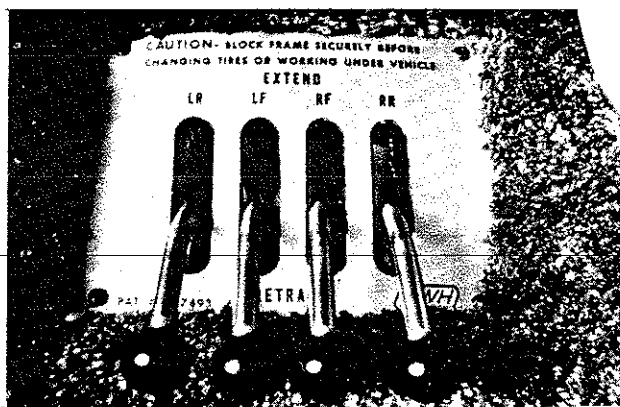

Figure 2-8. Leveling Jack Controls.
Overall system operation is monitored at the lower dash, while each jack is independently operated by one of four respective **EXTEND-RETRACT** levers located on the floor to the left of the driver, figure 2-8. Separate dash indicators and a buzzer (when ignition switch is on) provide visual and audible signals to show that the associated leveling jacks are not stowed to a safe travel position.
**Leveling Jack Controls** — Described previously with figure 2-8.